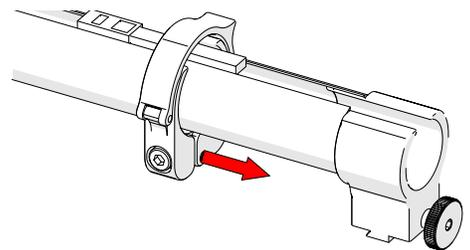

Fig. 75 - Slide clamp onto mount
3. Slide the clamp over the tube and cable management dovetail mount, pinching the tube in between (Fig. 75).